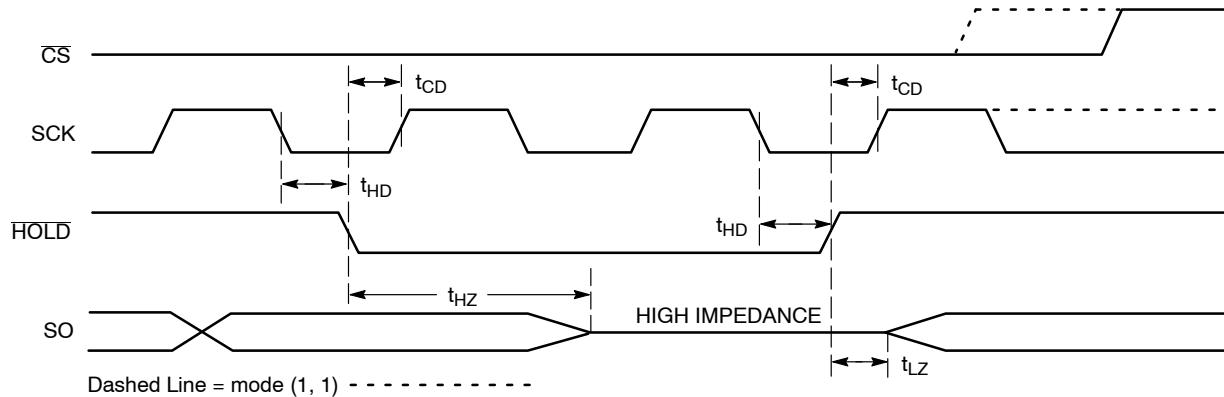

Figure 11. HOLD Timing
The HOLD input can be used to pause communication between host and CAT25256. To pause, HOLD must be taken low while SCK is low (Figure 11). During the hold condition the device must remain selected (CS low). During the pause, the data output pin (SO) is tri-stated (high impedance) and SI transitions are ignored. To resume communication, HOLD must be taken high while SCK is low.